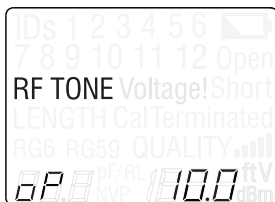

Figure 11. RF Tone Test with 10.0 MHz Frequency and Coax Pin Selected
- The tone path: coax pin (P), coax shield (S), or both coax pin and shield (PS).
- Set the unit to RF TONE by pressing the UP and DOWN buttons until the LCD display screen updates with the RF TONE icon (see Figure 11).